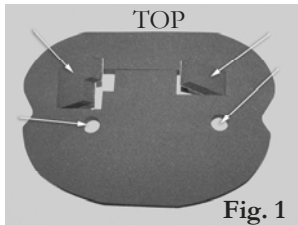

Fig. 1
- 3 Remove the knock-outs from the new gasket. (fig. 1)